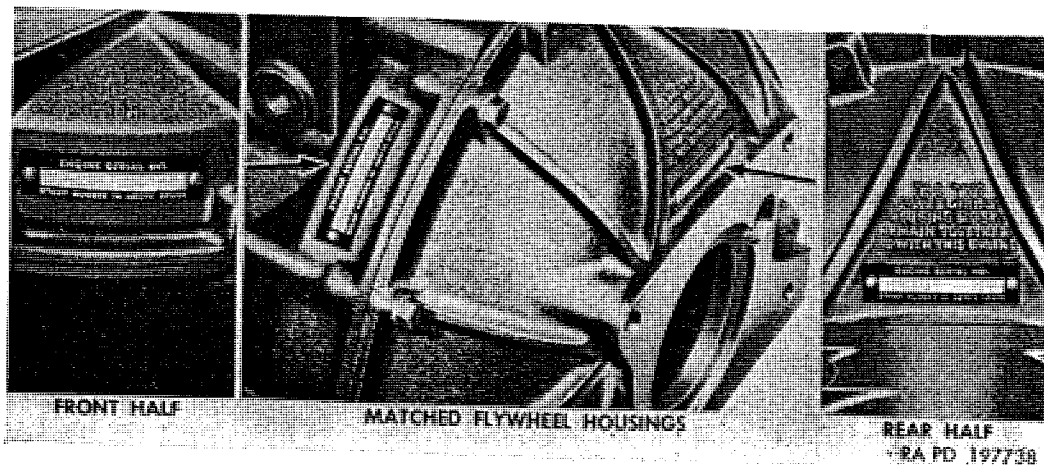

Figure 208. Location of engine serial number plates on flywheel housings.
Note. Flywheel housing front and rear halves comprise a matched set which must remain with engine on which originally installed. A metal plate attached to each half of flywheel housing bears engine serial number (fig. 208). Operations described in (a) through (d) below must be performed if transmission is not to be reinstalled on engine from which it was removed, or if it is found necessary to remove flywheel rear housing from transmission.
Note. Flywheel housing front and rear halves (fig. 208) must be kept together and with engine on which they were originally installed.
(7) If new torus cover is used, a final check for runout should be made before transmission is assembled to engine.
c. Flywheel Housing Rear Half Installation. Flywheel housing front and rear halves comprise a matched set which must remain with engine on which they were originally installed. A metal plate attached to each half of flywheel housing bears engine serial number (fig. 208) which must agree with serial numbers on plates and stamp on engine (figs. 24 and 25).
(1) Position flywheel housing rear half to transmission assembly and attach with four $\frac{1}{2}$ -13 x $1\frac{1}{2}$ self-locking bolts. Tighten opposite bolts alternately to 70 to 75 pound-feet torque.
(2) Push torus cover into place on splines of transmission front drive gear, using care to avoid damage to oil seal and oil ring at front pump cover as torus cover is pushed into place.
(3) Install driving torus assembly on splines of intermediate shaft of front planet carrier.
(4) Using snap ring pliers, install new driving torus retainer in groove of shaft to retain driving torus.
(5) On some early vehicles, torus check valve and spring are held in position in driven torus by a retainer and two bolts. On these vehicles, install driven torus on splines of transmission input shaft. On late vehicles not having the retainer and two bolts to hold torus check valve and spring in place, proceed as in (a) through (d) below.